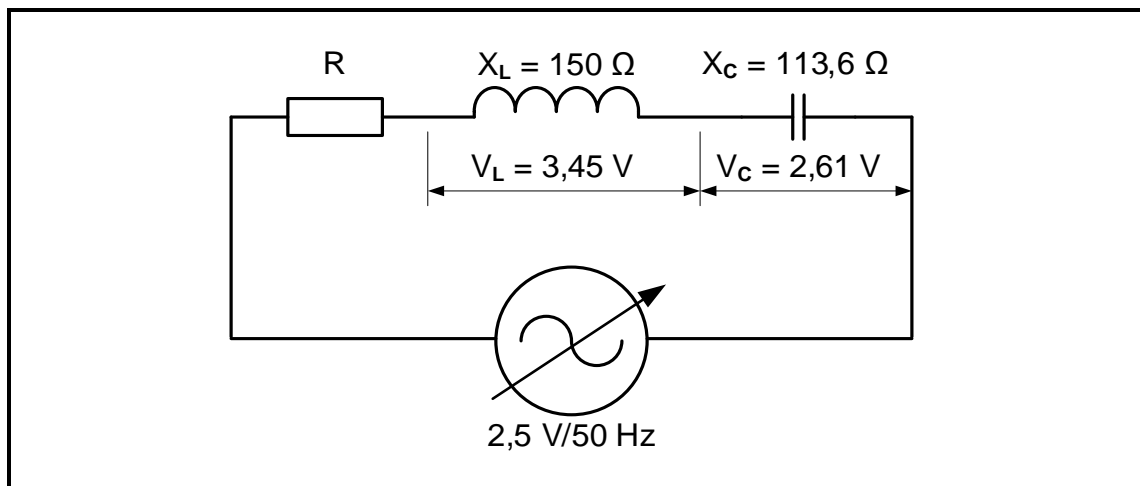

FIGURE 3.2: RLC SERIES CIRCUIT
3.2 FIGURE 3.2 below shows an RLC series circuit with a variable frequency supply. Answer the questions that follow.
3.2.1 State whether the circuit represented in FIGURE 3.2 has a leading or a lagging power factor. (1)